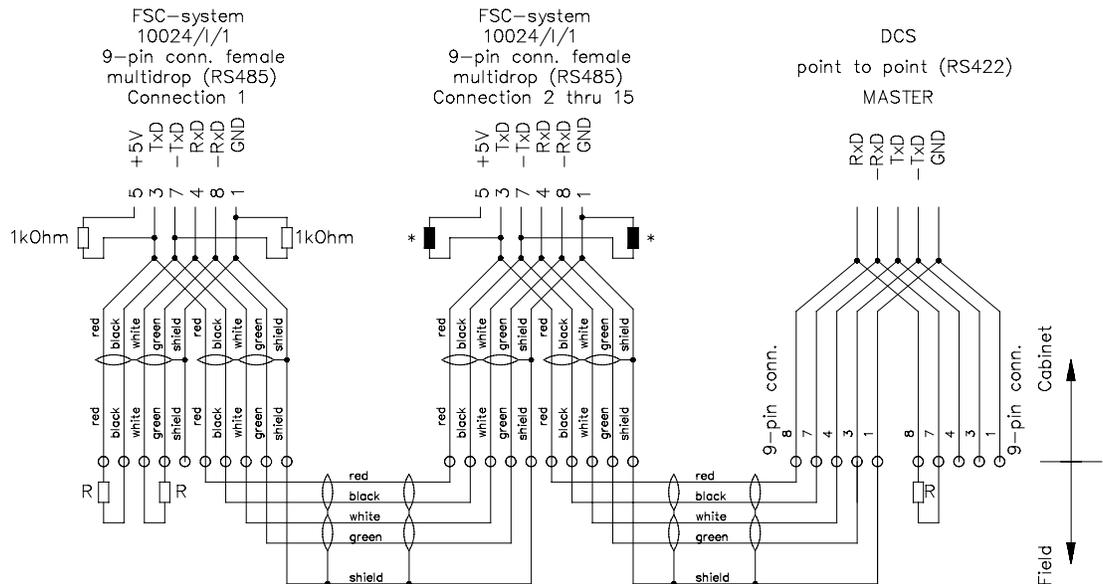

Figure 22 Connection between redundant FSC system and DCS
- **RS-485** communication (using an **I-interface**) (see Figure 22).
- ** Figure 22 is only an example. The exact RS-485 connections between an FSC system and a DCS may vary, depending on the DCS connection requirements.